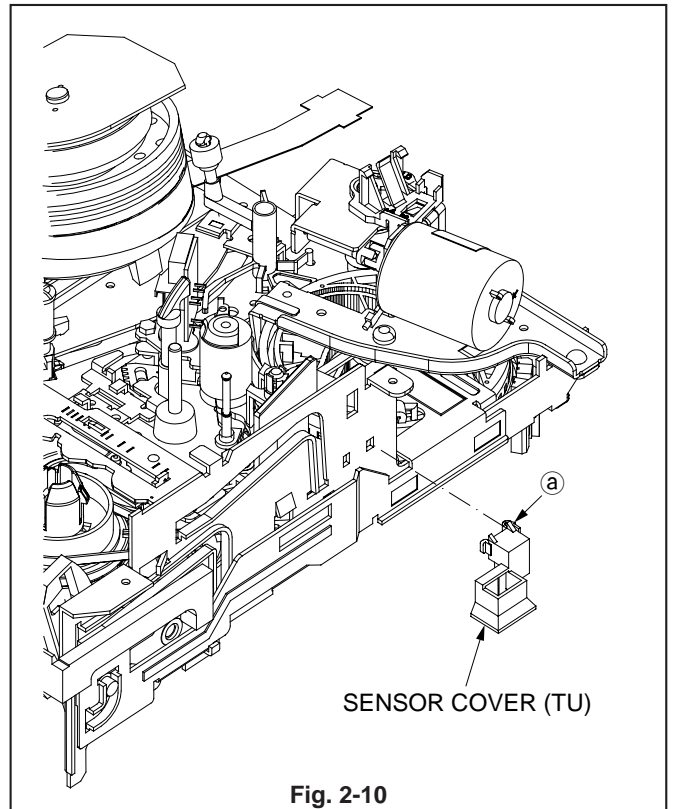

Fig. 2-10
1. Release the catch (a) of the SENSOR COVER (TU) shown in Fig. 2-10 to remove the SENSOR COVER (TU).
1. Install the SENSOR COVER (TU) shown in Fig. 2-10.